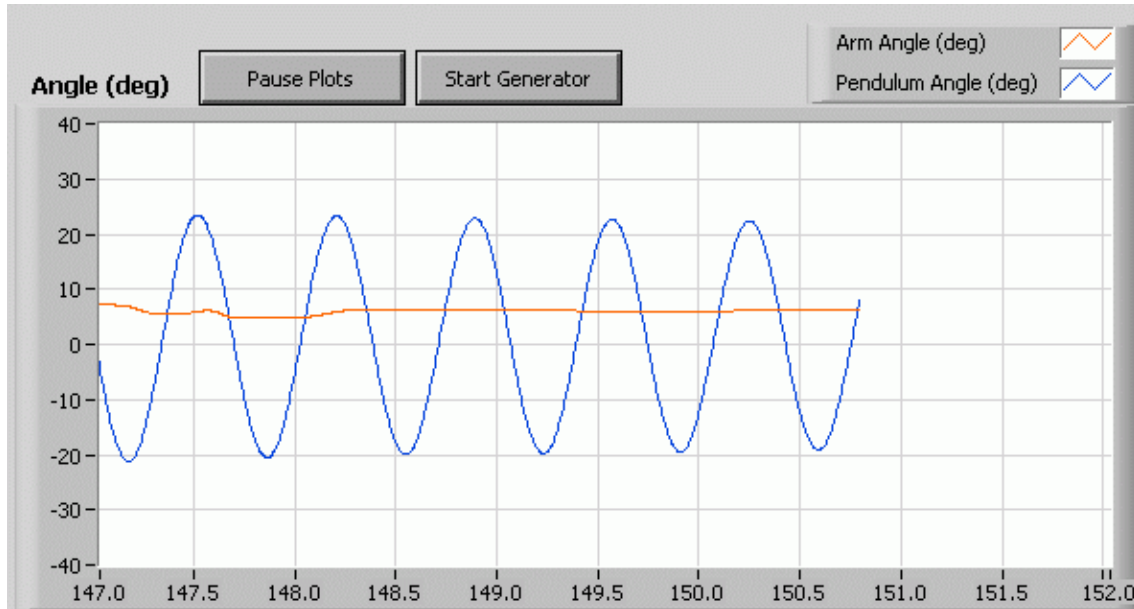

Figure 7.12: Y-axis of scope has been adjusted
2. The resulting scope is depicted in Figure 7.12. The blue trace is now more visible.